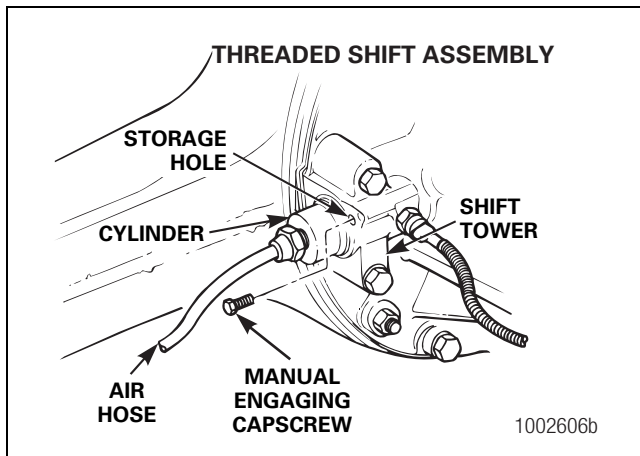

Figure 11.2
10. Disconnect the air hose from the shift cylinder. Figure 11.2.
11. Remove the manual engaging capscrew from the storage hole. The storage hole of threaded shift assemblies is located in the shift tower of the carrier, next to the cylinder. Figure 11.2.